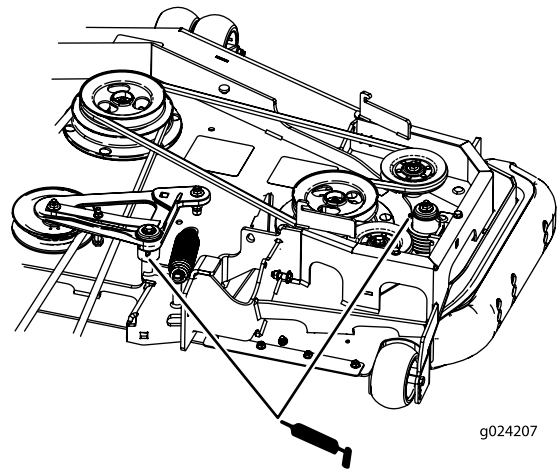

Figure 49
5. Grease the deck-belt idler arms (rear discharge machines only) as shown in Figure 49.